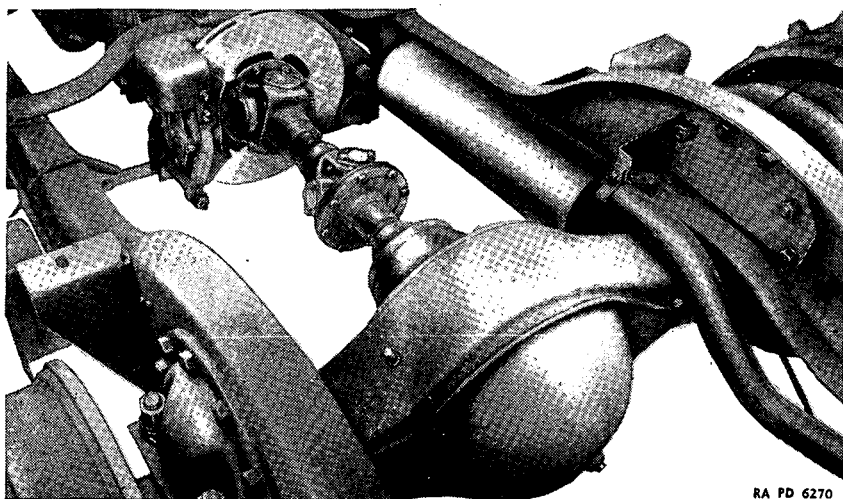

FIGURE 43.—Rear axle (jackshaft) assembly, installed.
18. Description (fig. 43).—The rear axle (jackshaft) is of the spiral, bevel gear, single reduction, full floating type.
g. Remove assembly— $1\frac{1}{4}$ -inch socket wrench. Remove four $\frac{7}{8}$ -inch U-bolt nuts (A214344) and bolts (B185101) holding axle to frame (fig. 43), and lower assembly (E3800).